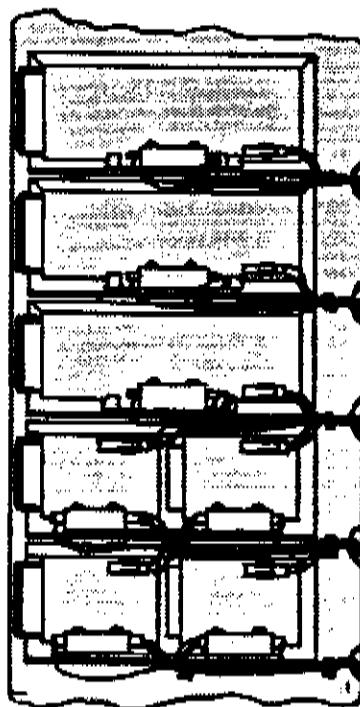

FIG. 15
2) For other machines - apply label as described on instruction label, only with right edge of label flush with right edge of casting. SEE FIGURE 15